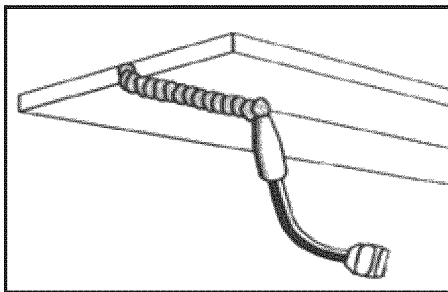

Fig. 13c
- **OVERHEAD POSITION** Is the most difficult welding position. Angle A (see **HOLDING THE TORCH**) should be maintained at 60 degrees. Maintaining this angle will reduce the chances of molten metal falling into the nozzle. Angle B should be held at zero degrees so that the wire is aiming directly into the weld joint. If you experience excessive dripping of the weld puddle, select a lower heat setting. Also, the weave bead tends to work better than the stringer. (Fig. 13c)